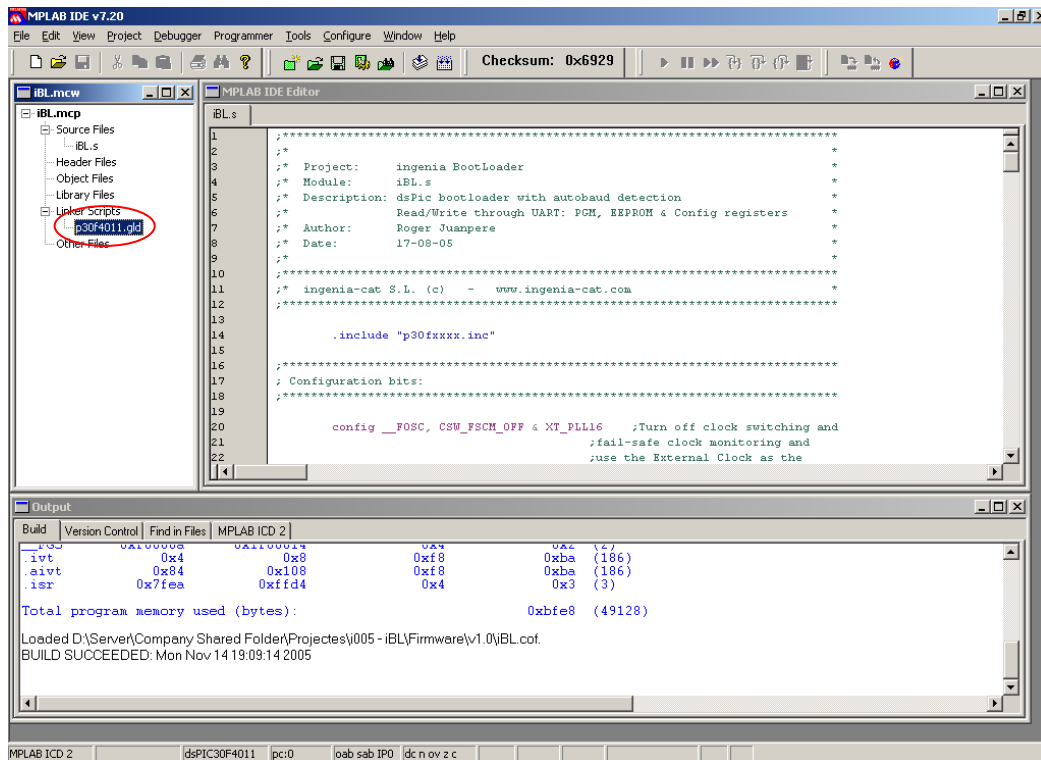

Figure 3: Modifying the linker script
3. In the project window remove the default linker script (p30f6015.gld) and add the corresponding to your device (See Figure 3).